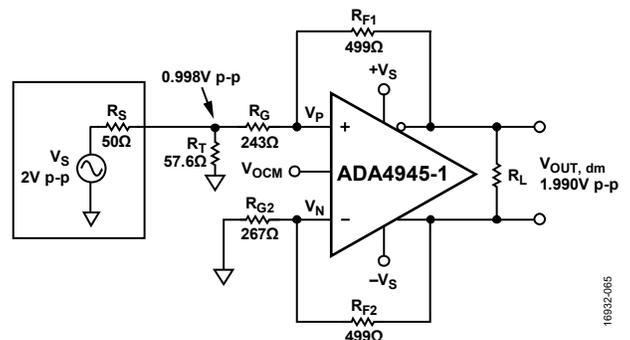

Figure 109. Terminated Single-Ended-to-Differential System with  $G = 1$
5. The modified gain resistor,  $R_{G1}$ , changes the input impedance. Repeat Step 1 through Step 4 several times using the modified value of  $R_{G1}$  from the previous iteration until the value of  $R_T$  does not change from the previous iteration. After three additional iterations, the change in  $R_{G1}$  is less than 0.1%. The final circuit is shown in Figure 109 with the closest 1% resistor values.